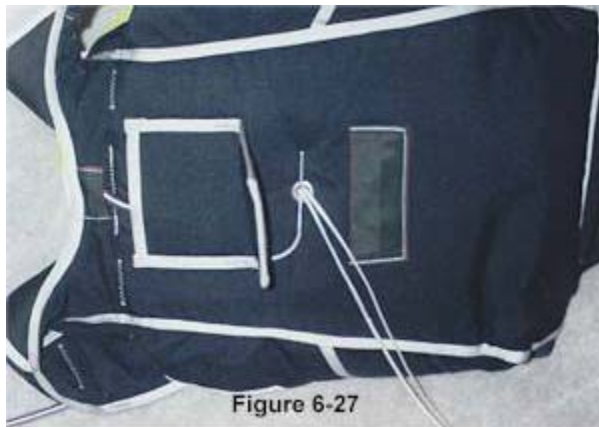

Figure 6-25
**Step 23** Close the #5 top flap and insert the pull-up cord through the 'T' Bodkin (next to the Soft Bodkin), leaving about four (4) inches of bridle exposed. (*Figure 6-25*)